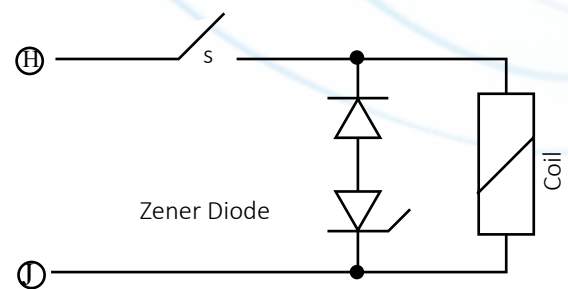

Fig1. Diode with the zener diode
1. Diode with Zener Diode (fig.1)